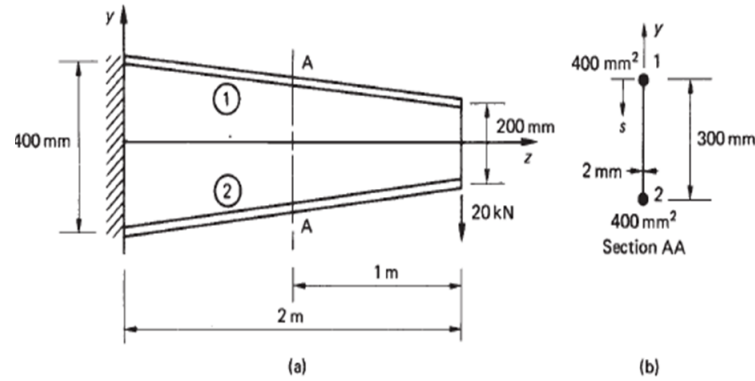

Figure 8
- (b) Determine the shear flow distribution in the web of the tapered beam shown in Figure 8(a) and (b) at a section midway along its length. The web of the beam has a thickness of 2mm and is fully effective in resisting direct stress. The beam tapers symmetrically about its horizontal centroidal axis and the cross-sectional area of each flange is $400\text{N}/\text{mm}^2$. [BL: Apply| CO: 5|Marks: 7]